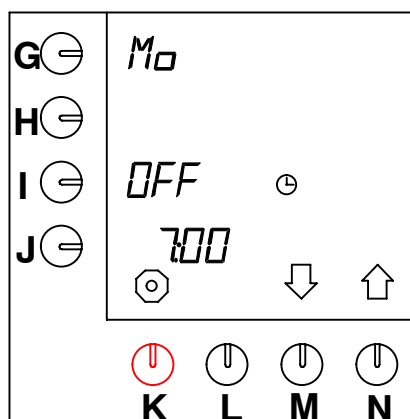

Fig. 43 Container preheating
- OFF appears on the display beside the programming key (I.) (fig.43 ).